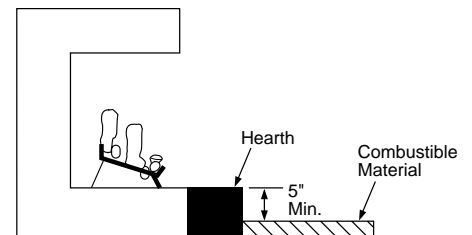

Figure 9 - Minimum Fireplace Clearances Above Combustible Flooring
- If combustible materials are less than 14" from the fireplace, you must install appliance at least 5" above the combustible flooring (see Figure 9).